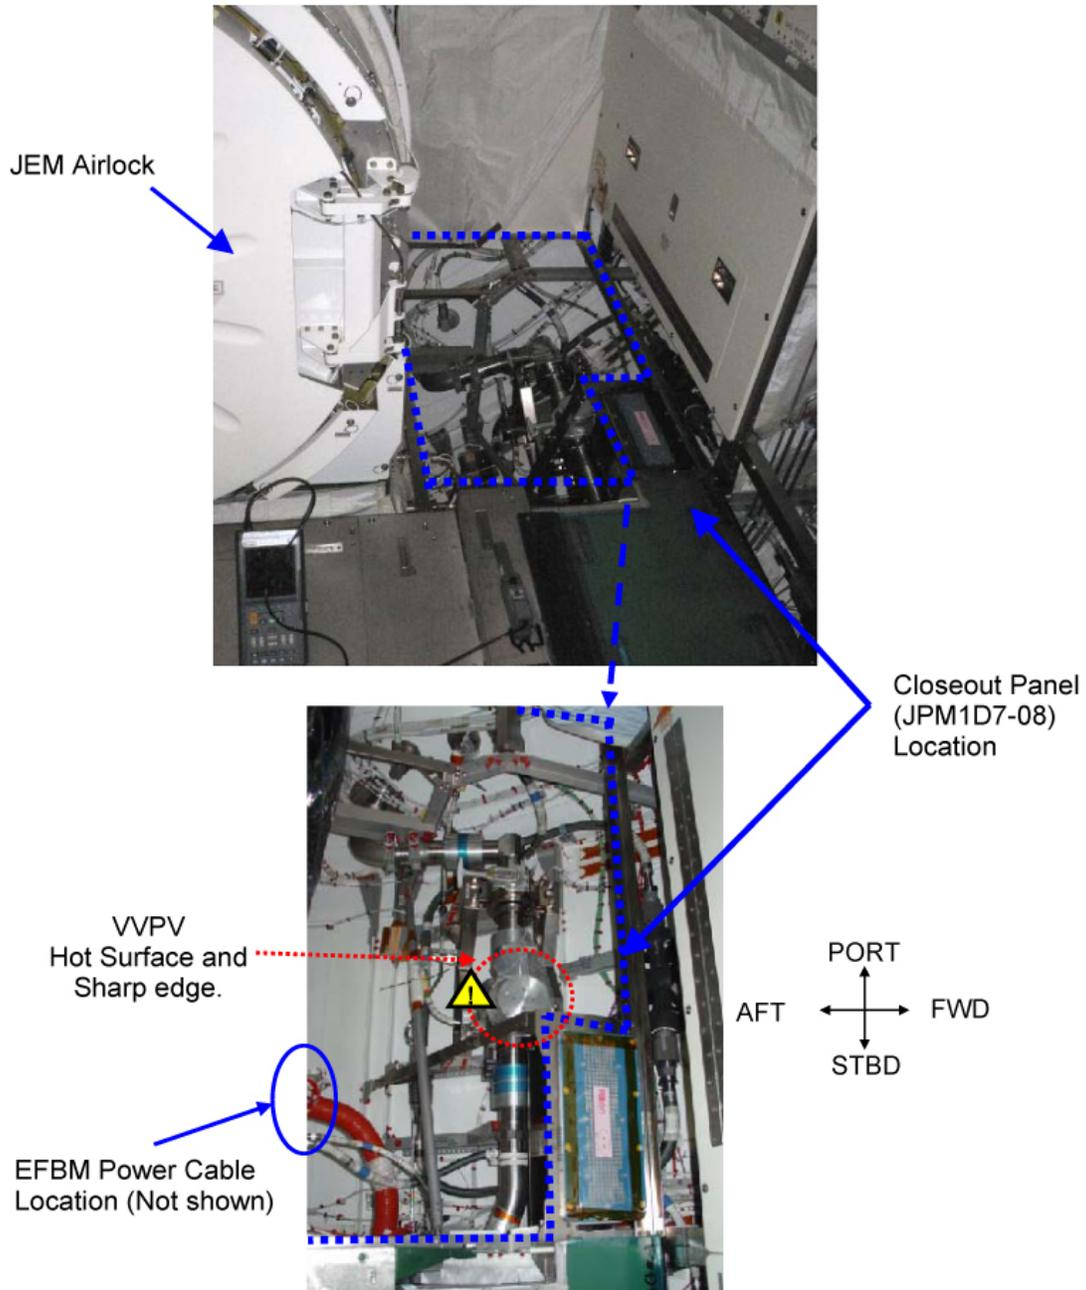

Figure 1. JPM1D7-08 Area Hazardous Equipment Location.
- JPM1D7 1.1 Remove Closeout Panel JPM1D7-08, fasteners (nineteen) (Ratchet, 1/4" Drive; 5/32" Hex Head, 1/4" Drive). Temporarily stow. Refer to Figure 1.